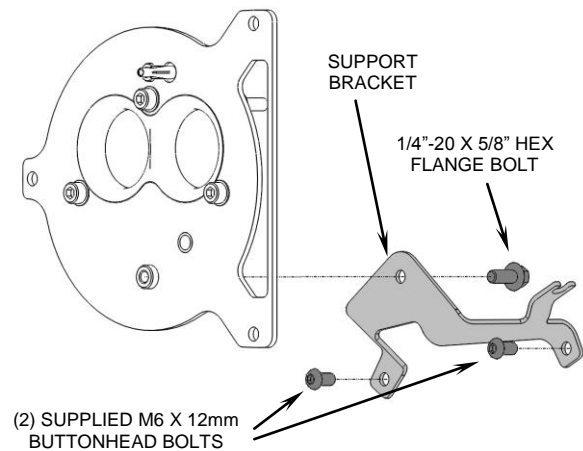
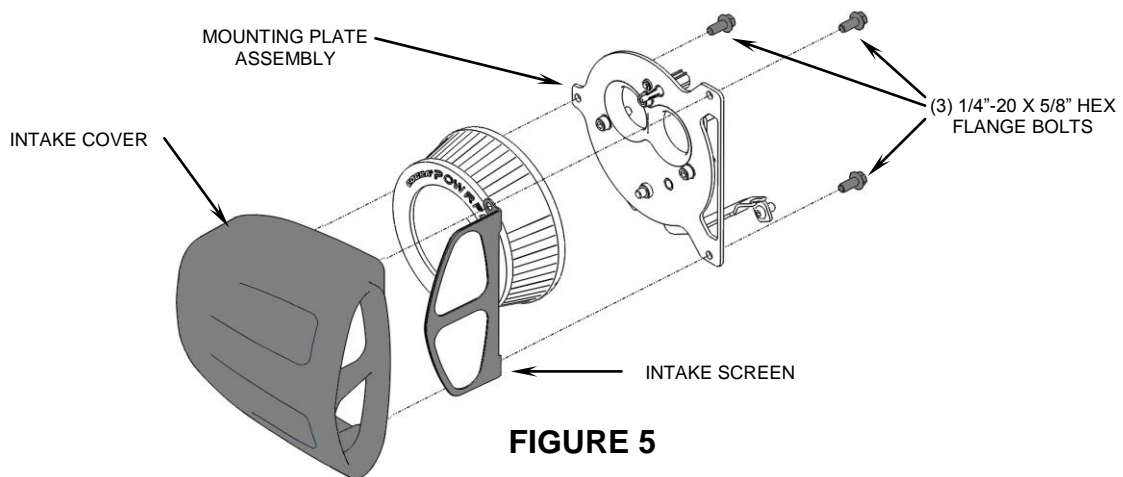

FIGURE 4
FIGURE 5
- Install the supplied support bracket to the two threaded bosses near the base of the cylinders using the (2) supplied M6 x 12mm buttonhead bolts. Secure the support bracket to the mounting plate using the (1) supplied 1/4" hex flange bolt, and finger tighten. See Figure 4.
- Fully tighten the (3) M6 x 25mm allen bolts, from Step 7, followed by the support bracket bolts, from Step 8.
- Insert the intake screen into place so the holes in the bent tabs align with the threaded bosses in the intake cover, see Figure 5 for orientation. Place the supplied K&N® filter into the intake cover.
- Place intake cover over the mounting plate and align the mounting holes to the threaded bosses. Insert (3) supplied 1/4" hex flange bolts and tighten the mounting plate to the intake cover. See Figure 5.